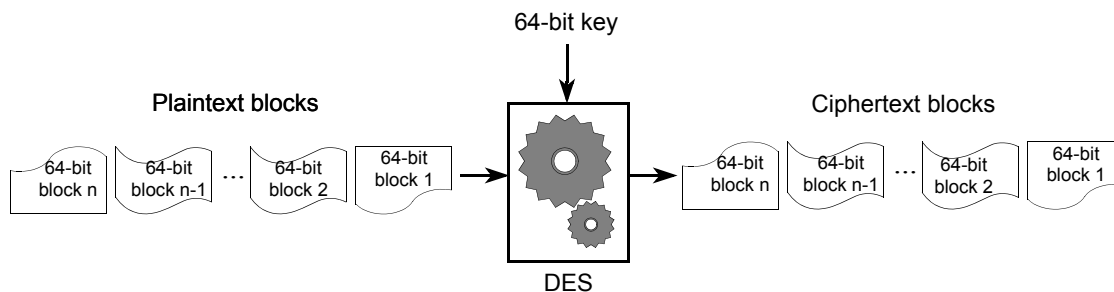

**Figure 28-1. DES Encryption Process**
DES is a block cipher that uses a 56-bit key (64 bits with CRC) to encrypt 64-bit blocks of data, one block at a time. A conceptual diagram of this process is shown in Figure 28-1. DES is a symmetric algorithm, so each of the two communicating parties share the same 64-bit key for encryption and decryption. DES processing begins after this shared session key is agreed upon. The text or binary message to be encrypted (typically called plaintext) is partitioned into  $n$  sets of 64-bit blocks. Each block is processed, in turn, by the DES engine, producing  $n$  sets of encrypted (ciphertext) blocks. These blocks may be transmitted to the other entity.